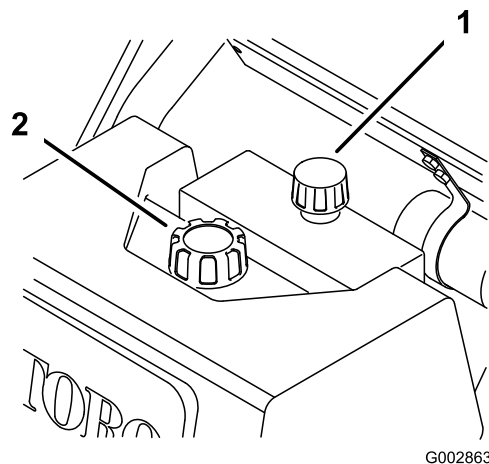

Figure 37
2. Clean area around filler neck and cap\ dipstick of hydraulic tank (Figure 37).